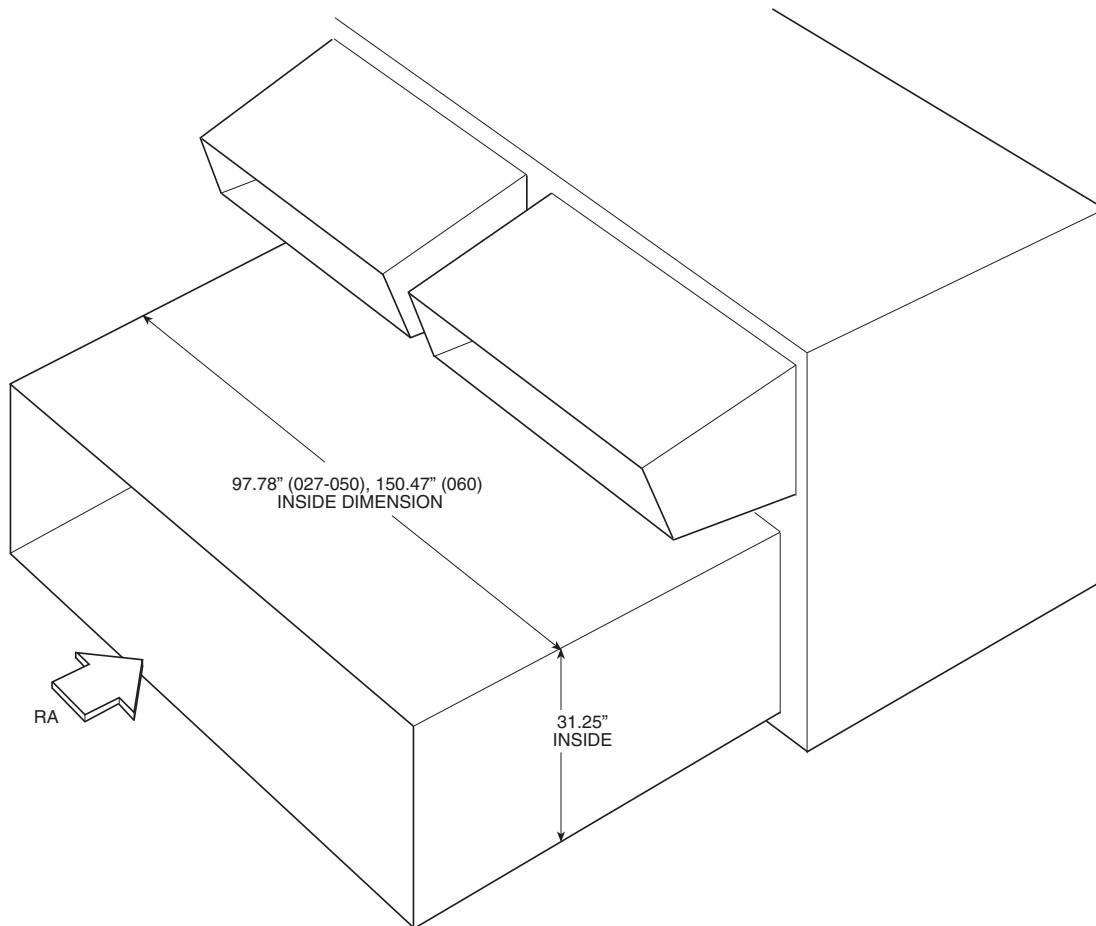

Fig. 47 — Side Return Air Conversion
3. Run the return air ductwork up to the openings. One single duct is recommended to connect to the unit over the return air openings. See Fig. 47. The return duct must incorporate a minimum $\frac{3}{4}$ -in. flange for connection to the unit cabinet. The unit does not have duct flanges for this conversion.
Space must be available in the return duct to mount the power exhaust fan (gravity relief) modules. Dimensions and suggested locations are shown in Fig. 47. These instructions are a guideline and not a comprehensive procedure. The design contractor must provide some design initiative.